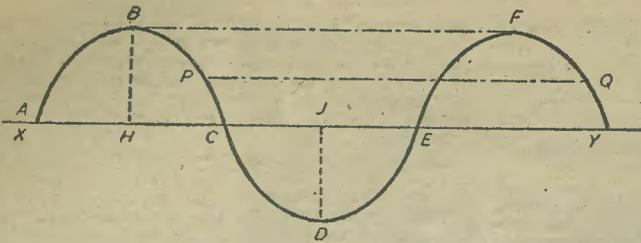

Fig. 1.—Amplitude H.B. is positive or JD negative. Wavelength BF or PQ. One complete cycle ABCDE.
- (1) Velocity, which is the speed with which energy is conveyed from one point to another by means of the wave motion.
- (2) Frequency, which is the number of waves passing a fixed point in a given interval of time, usually taken as one second.
- (3) Wavelength, which is the distance between one wave crest and the next.
- (4) Amplitude, the maximum displacement of a moving particle of the medium from its mean position, or very roughly the amount of medium in vibration. The reader is referred to Fig. 1 for a graphical representation.
Frequency is given in terms of cycles per second and one cycle of a wave is one complete set of varying conditions; the part above the mean line XY in Fig. 1 being termed positive half cycles and those below the negative half cycles.
for. Both of these points are illustrated in Fig. 1, which shows the circuit diagram of a typical Class B transmitter output stage. In this diagram the circuit of the driver stage is also included. This usually takes the form of two triodes, again in push-pull, but operating generally under Class A conditions. It is interesting to notice that the same two precautions are taken with the driver stage to ensure precise equality in the outputs of the two valves. The A.F. amplifier of most transmitters consists of pairs of valves operating in push-pull throughout, the valves becoming larger as one moves towards the output of the chain. All stages use Class A working, except the last, usually.